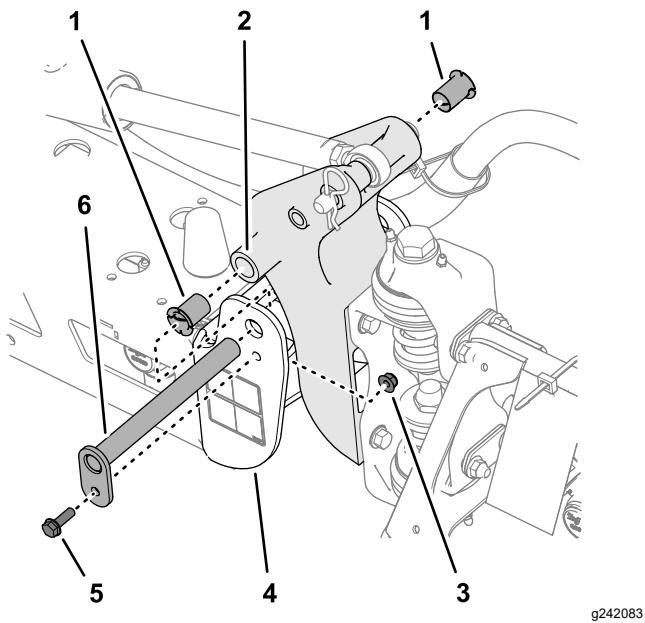

Figure 110
3. Remove the bolt and nut that secure the pivot pin, and remove the pin (Figure 110).
5. Remove and inspect the nylon bushings from the front and back sides of the pivot bracket (Figure 110).
6. Lubricate the nylon bushings with a small amount of oil, and install the bushings into the pivot bracket (Figure 110).
7. Align the holes in the pivot bracket with the holes in the end channel (Figure 110).